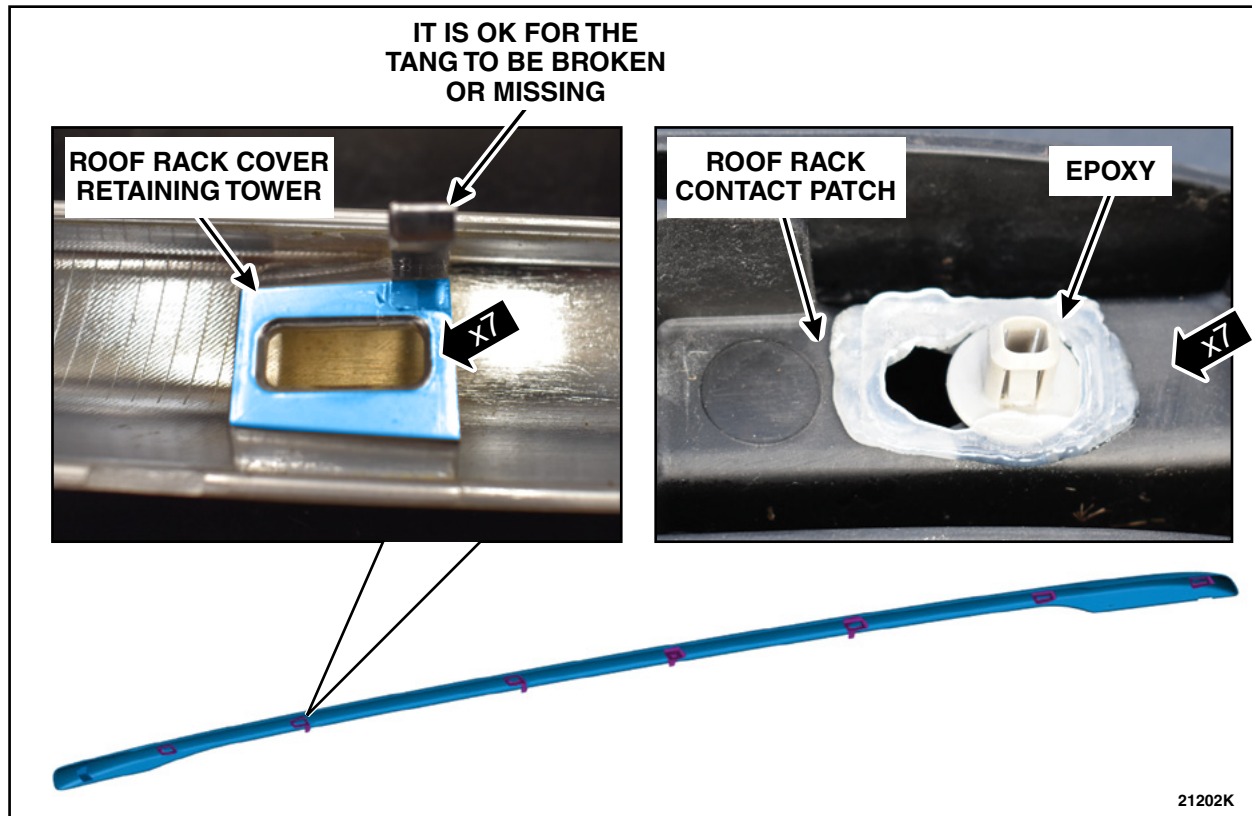

FIGURE 11
1. If Technical Service bulletin (TSB) 19-2364 or 20-2154 was performed, evidence of RTV or expoxy will be seen on the roof rack cover and or roof rail contact patch. Inspect the roof rack cover retaining tower and roof rail contact patch for signs of RTV or epoxy adhesive. See Figure 11. Was evidence of RTV or epoxy found?